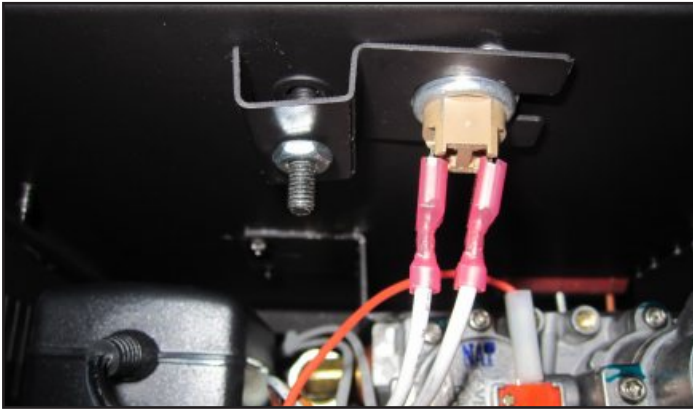

Figure 8.7 - Attach Snap Disc Bracket
- Attach the snap disc bracket to the stud located under the left side of the appliance using the 10-32 nut also located in the appliance component bag. Tighten until snug using the 3/8 in. wrench. See Figure 8.7.